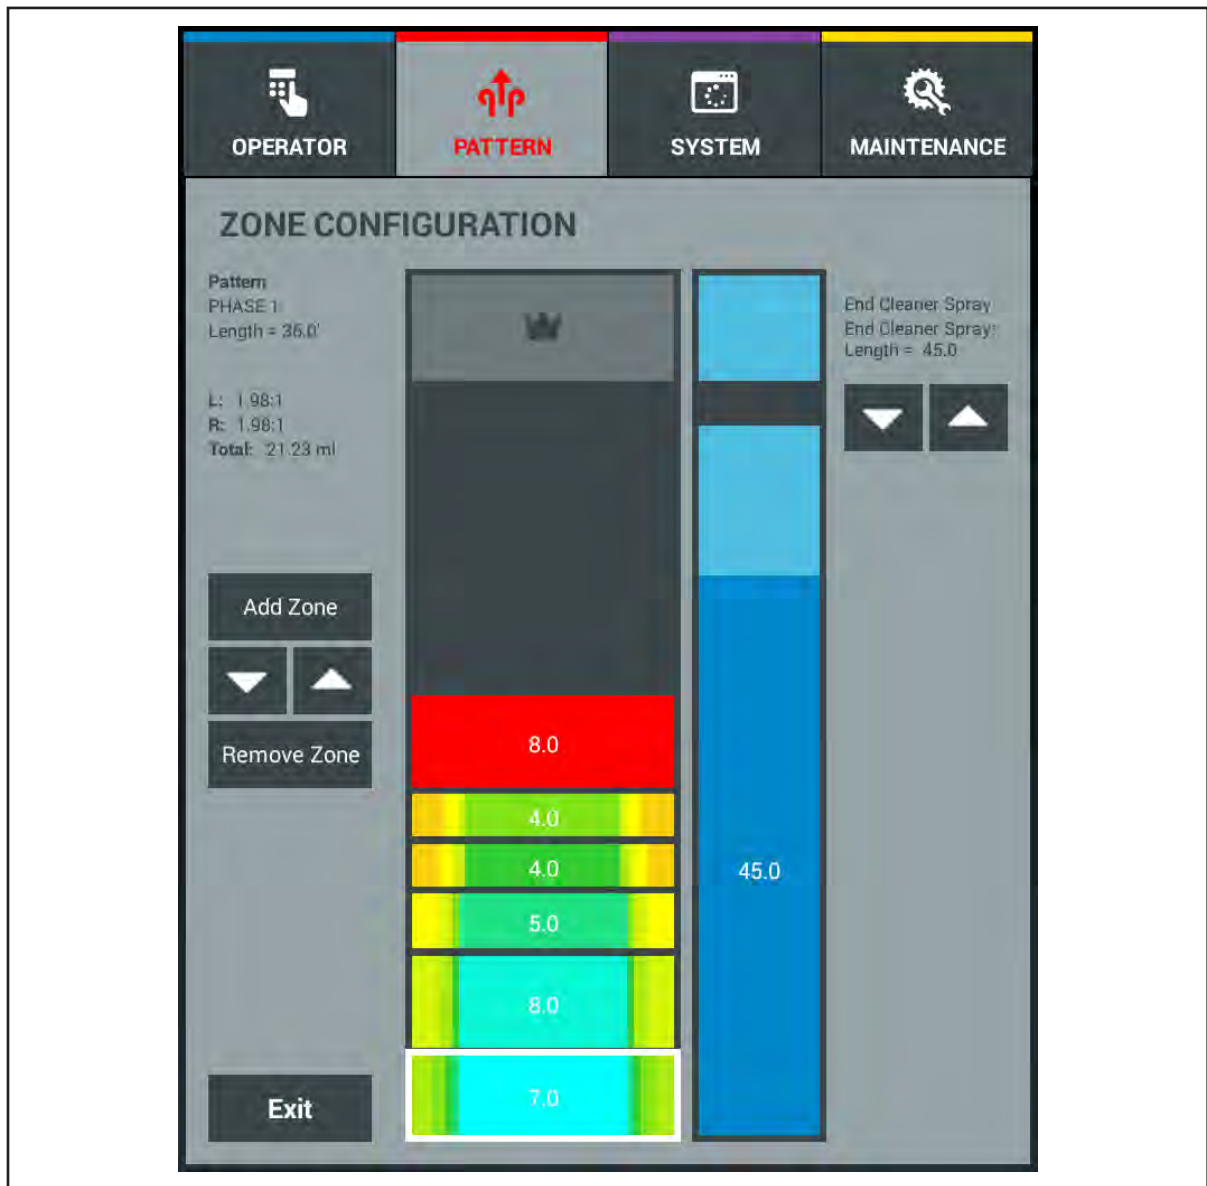

Figure 8-3. Zone Configuration
The zone configuration allows you to design patterns with a minimum of one zone to a maximum of eight zones. Zone lengths can range from 3 feet to 57 feet. Recreational patterns can vary from 3 zones to 5 zones with zone lengths from 8 feet to 12 feet. The last zone in the pattern should always be a buff zone to help optimize the lengthwise taper of the pattern. Adjust the cleaner transition so the volume of cleaner reduces at least two feet into the last zone. Sport and competitive patterns utilize 5 to 8 zones with zone lengths ranging from 5 feet to 10 feet. Again, the last zone should be a buff zone. The end cleaner spray should be adjusted 45-50 feet to properly clean the lane. Refer to *Figure 8-3*.
2. Select the Import button on the tablet screen and select “Private” when the message appears. Refer to *Figure 8-3*.